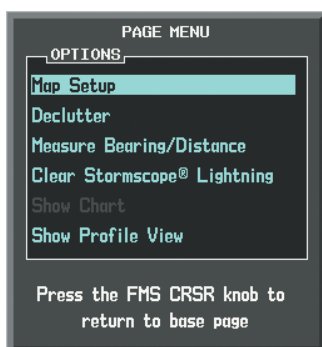

Figure 6-161 Navigation Map Page Menu
- 3) With 'Map Setup' highlighted, press the **ENT** Key (Figure 6-161).